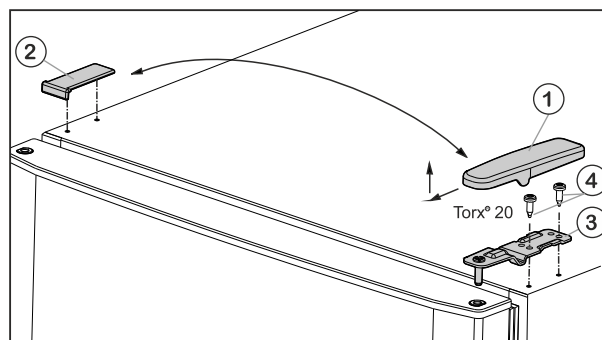

Fig. 5
- ▶ Pull off the cover Fig. 5 (1) forwards and upwards.
- ▶ Lift off the cover Fig. 5 (2).
- ▶ Unscrew the upper turn hinge Fig. 5 (3) (2 x Torx® 20) Fig. 5 (4) and lift it off.
- Set the upper door down on the centre bearing block (13).
- Insert the upper turn hinge Fig. 5 (3) in the door on the new hinge side.
- Screw in the upper bearing block **tightly (with 4 Nm)** (2 x Torx® 20) Fig. 5 (4). Use a cordless screwdriver if necessary.
- Fit the cover Fig. 5 (1) on the opposite side by sliding it rearwards and latching it into place.
- Press the cover Fig. 5 (2) on the opposite side down into place until it latches.